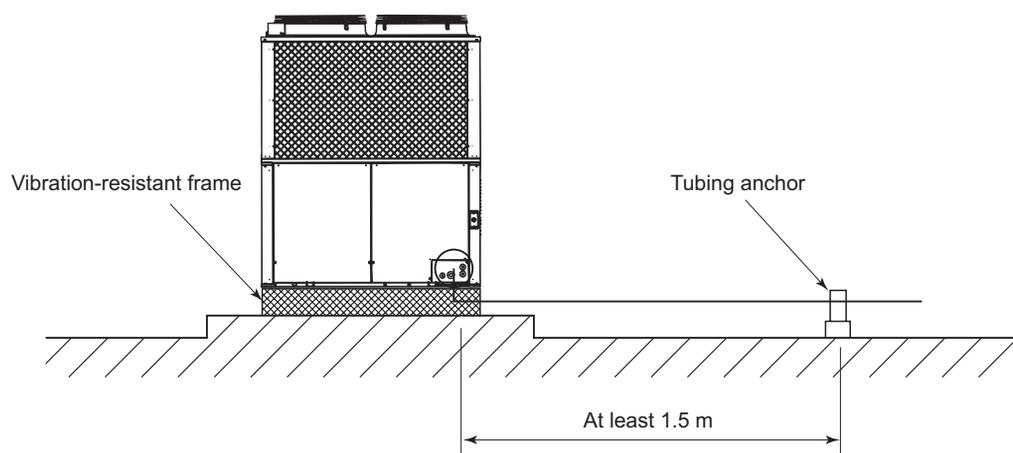

Fig. 21
- When anchoring the refrigerant tubing, place the tubing anchor at least 1.5 m away from the outdoor unit, as shown in Fig. 21.